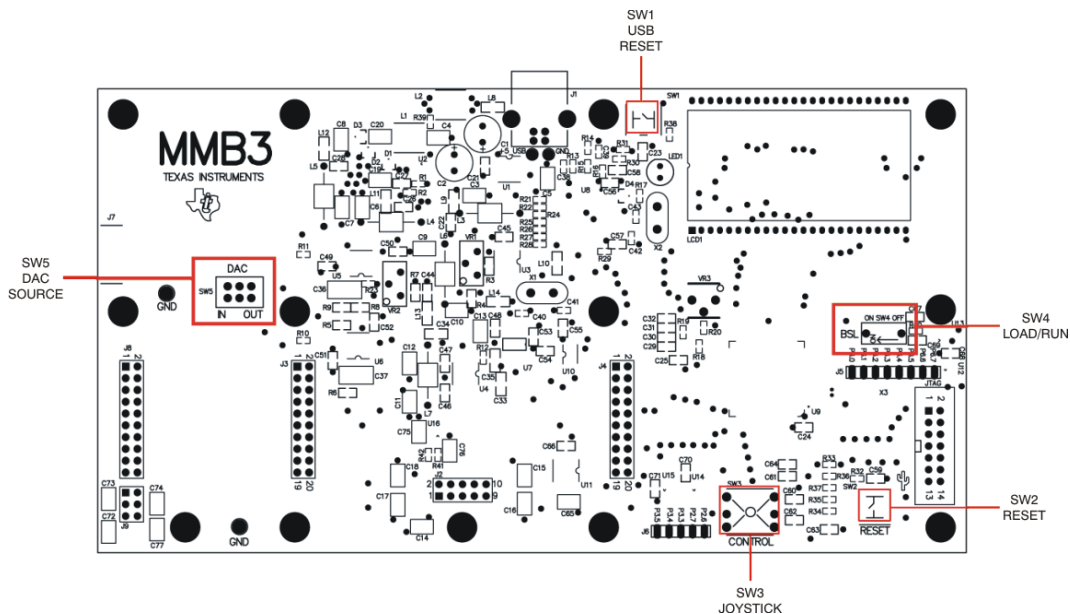

Figure 6. MMB3 Switch Locations
- Step 2. Set the switches on the MMB3 as described below, as shown in Figure 6.
If the ADS1246EVM plug-in cannot find the ADS1246EVM-PDK, press the USB RESET button on the MMB3 (refer to Figure 6) and try again.